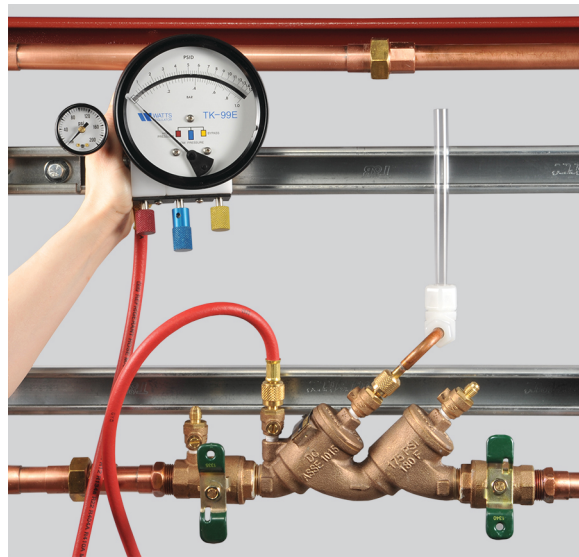

Figure 40. Test kit at the same level as the water in the sight tube.
21. Close shutoff valve 2. The test kit must be held at the same level as the water in the sight tube, as shown in Figure 40. Close shutoff valve 1.